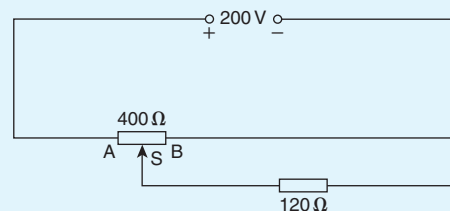

Figure 5.44
- For the circuit shown in Fig. 5.44, AS is $3/5$ of AB. Determine the voltage across the $120\ \Omega$ load. Is this a potentiometer or a rheostat circuit?